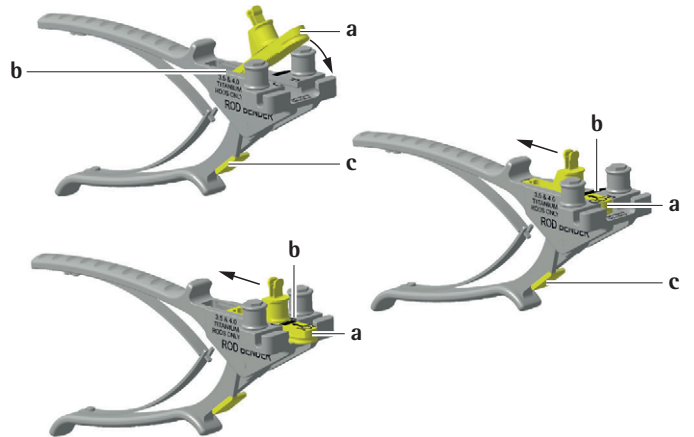

Fig. 71
- ▶ Push the central roller **a** back so that it lays flat on the surface **b**, as shown at the top of the image, see Fig. 71.
- ▶ Push the central roller **a** back in the direction of the arrow, as shown at the bottom of the image, see Fig. 71.
- ▶ Press on the golden trigger **c** and move the central roller **a** completely back, as shown on the right side of the image, see Fig. 71.